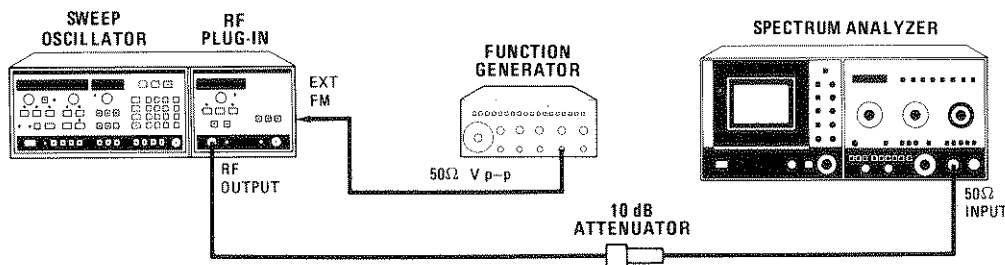

Figure 4-16. 100 Hz External Frequency Modulation Test Setup
1. Ensure that modulation sensitivity is set to  $-20$  MHz/volt and modulation coupling to DC (see Figure 3-10, Configuration Switch). Connect equipment as shown in Figure 4-16.